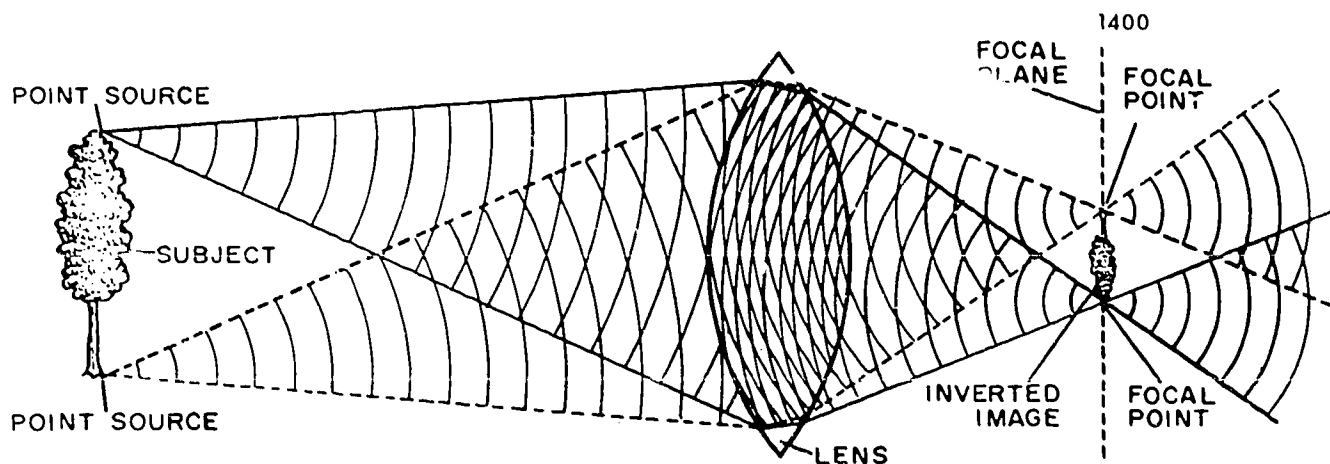
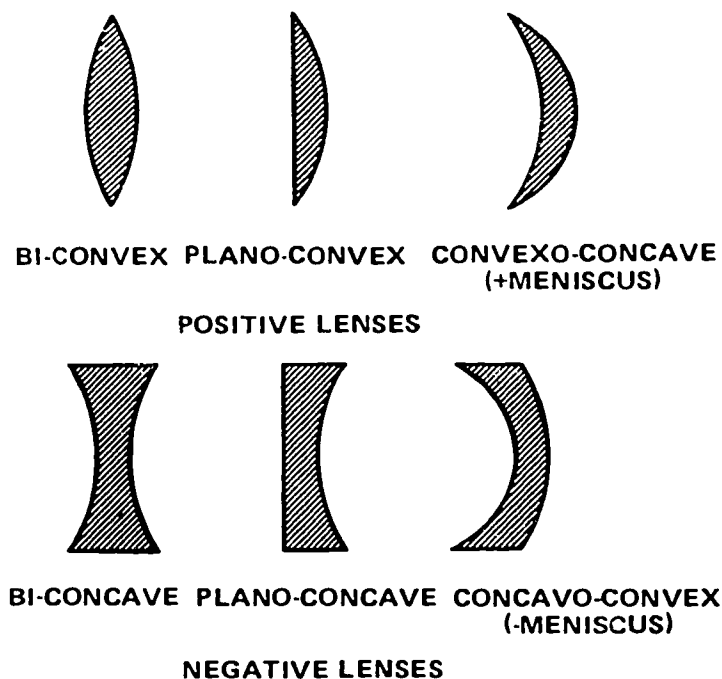

Figure 1-16. Image formation.
Figure 1-17. Simple lenses.
The way the inverted image is constructed is illustrated in figure 1-16, which shows just two of the millions of points that reflect light. In actual practice, all of the focal points combine to form the total image. Notice that the image is inverted and is formed behind the lens at a plane termed the "focal plane."
The lens in figure 1-16 is a simple biconvex positive lens and is nothing more than a cross-sectional view of an ordinary magnifying lens. Now look at figure 1-17 and notice the variations in shape of positive and negative lenses. Remember that there is a basic system of nomenclature: (1) The prefix "bi" indicates that the descriptive term applies to both surfaces; i.e., biconvex (both surfaces are convex). (2) The prefix "plano" indicates a flat surface; i.e., plano-convex (one surface flat, the other convex). (3) Finally, the first word in the two-word combination indicates the predominant characteristic; i.e., concavo-convex (a lens with one concave surface and one convex surface—the concave surface having greater